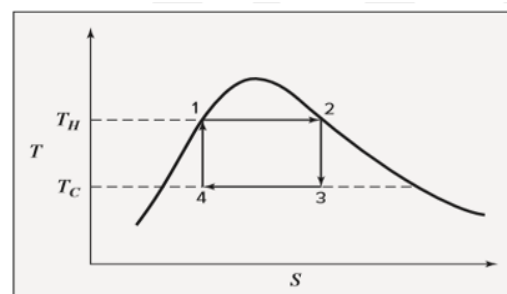
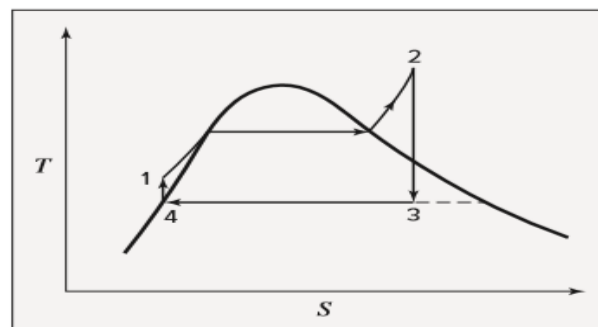

Figure 8.2: Carnot cycle on a TS diagram
Figure 8.3: Rankine cycle on a TS diagram.
The processes that occur as the working fluid flows around the cycle are represented by lines on the TS diagram of Fig. 8.2. The sequence of these lines conforms to a Carnot cycle, as described in Chapter 5. The operation as represented is reversible, consisting of two isothermal steps connected by two adiabatic steps.
Turbines that take in saturated steam produce an exhaust with high liquid content, which causes severe erosion problems. Even more difficult is the design of a pump that takes in a mixture of liquid and vapor (point 4) and discharges a saturated liquid (point 1). For these reasons, an alternative cycle is taken as the standard, at least for fossil-fuel-burning power plants. It is called the Rankine cycle, and it differs from the cycle of Fig. 8.2 in two major respects. First, the heating step  $1 \rightarrow 2$  is carried well beyond vaporization so as to produce a superheated vapor, and second, the cooling step  $3 \rightarrow 4$  brings about complete condensation, yielding saturated liquid to be pumped to the boiler. The Rankine cycle therefore consists of the four steps shown in Fig. 8.3 and described as follows:
- $2 \rightarrow 3$  **Reversible, adiabatic (isentropic)** expansion of vapor in a turbine to the pressure of the condenser. The step normally crosses the saturation curve, producing a wet exhaust. However, the superheating accomplished in step  $1 \rightarrow 2$  shifts the vertical line far enough to the right on Fig. 8.3 that the moisture content is not too large.
- $4 \rightarrow 1$  **Reversible, adiabatic (isentropic) pumping** of the saturated liquid to the pressure of the boiler, producing compressed (subcooled) liquid. The vertical line (whose length is exaggerated in Fig 8.3) is very short because the temperature rise associated with compression of a liquid is small.